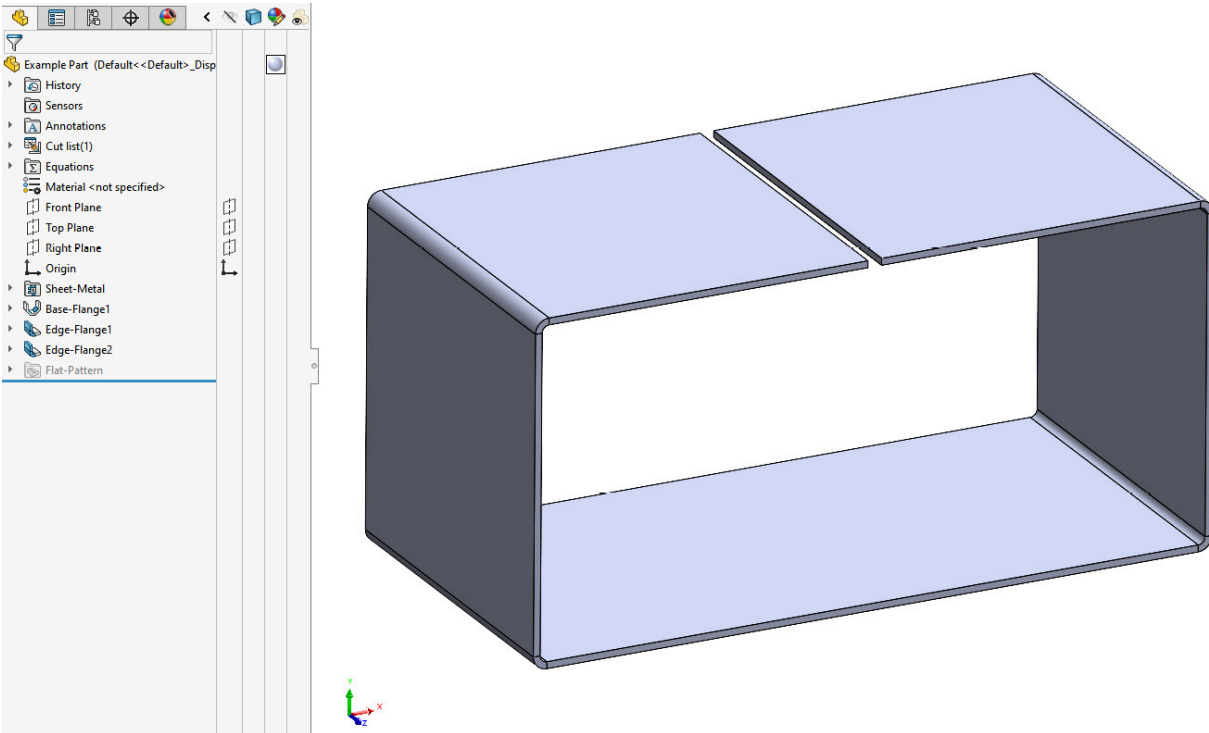

Figure 3.26: Creating a part with a single Base Flange and two sets of Edge Flanges, creating a rough box shape
3. Add two further **Edge Flanges** to the top edges of the previous **Edge Flanges** (*Figure 3.26*). These should both be at a **90°** angle and have a length of **49mm** (**Outer Virtual Sharp** and **Material Inside**) so that a rough box shape is created but the ends of the upper flanges don't quite touch and have a small gap: